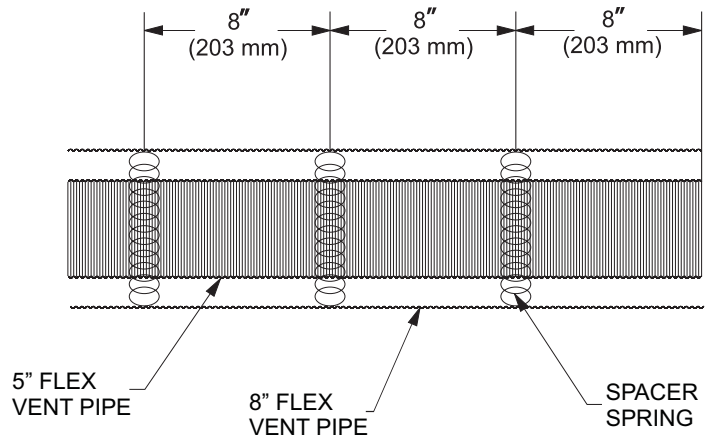

Figure 69
5. Install the Wall Firestop/Thimble assembly as required through the wall. Refer to the venting charts in the fireplace manual to determine the proper height and size of the vent opening. The minimum opening should be 10" wide by 12" high. The minimum combustible clearance from the horizontal vent is 1" from sides and bottom, and 3" above the vent pipe. See Figure 69.